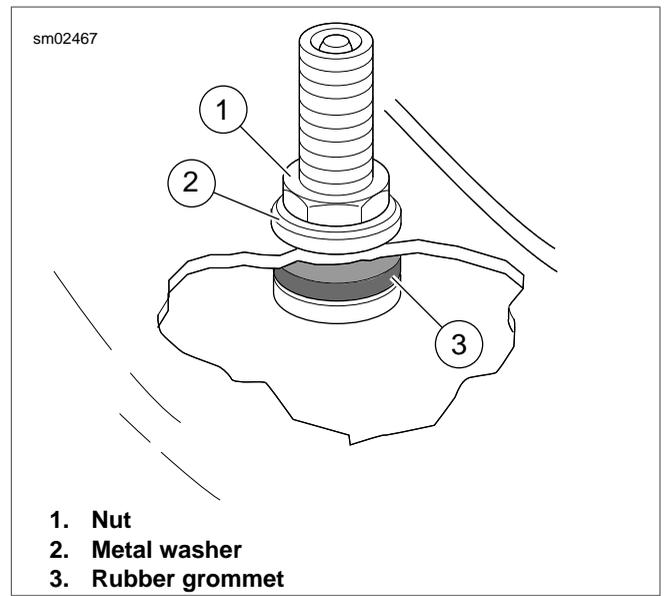

Figure 2-55. Tubeless Tire Valve Stem
1. See Figure 2-55. On tubeless wheels, damaged or leaking valve stems must be replaced. Install rubber grommet (3) on valve stem.
3. Install metal washer (2).